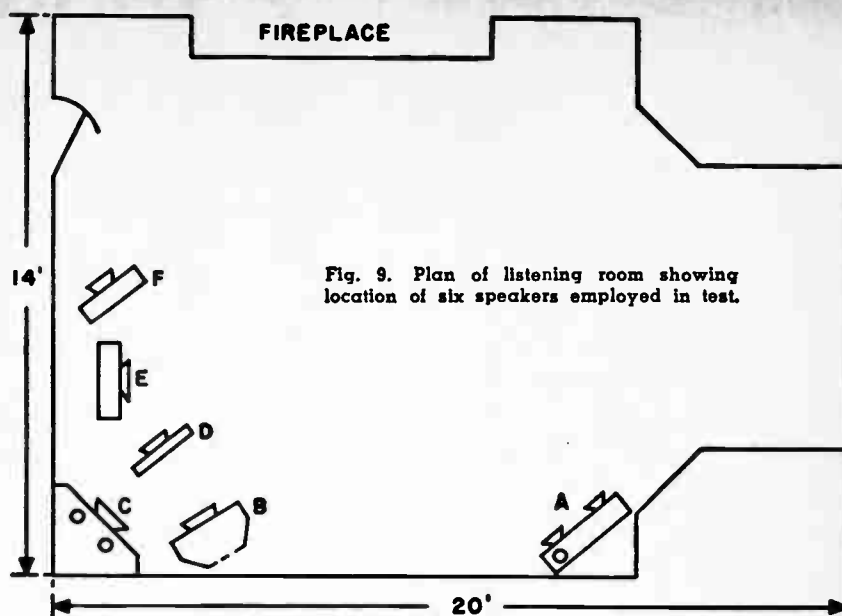

Fig. 9. Plan of listening room showing location of six speakers employed in test.
Fig. 8. Photograph of speakers outlined in Fig. 9 (A) Three-speaker system used in tests described in Part 2. (B) "Super 12" in Electro-Voice "Aristocrat" cabinet. (C) Three-way corner system. (D) Ten-inch speaker on sand-filled 28" x 24" baffle. (E), (F) Ten-inch speaker in 2 cu. ft. bass-reflex enclosure with acoustic filter.
It is necessary to include another plan of my own listening room to show the disposition of the half dozen speakers used in the tests. (See Fig. 9.) The corner speaker referred to as A in Fig. 7 of Part 2 now becomes C.